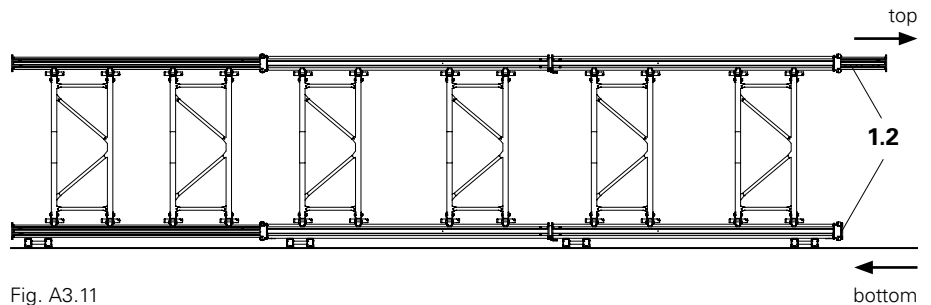

Fig. A3.11
9. Detach lifting gear. (Fig. A3.11 – A3.11b)